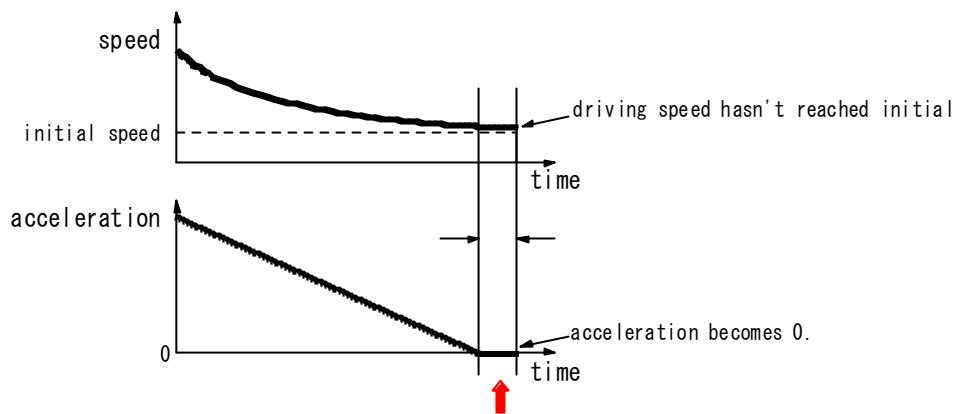

Figure 2. Driving speed and acceleration just before driving completion
Fixed pulse driving in S-curve acceleration/deceleration is performed as that driving speed and initial speed becomes equal and acceleration becomes zero(0) when driving finished, which means all pulse outputted. But it's impossible to make driving speed & initial speed equal and acceleration zero(0) in all combinations of parameters because of the problem of calculation accuracy. This trouble will happen if it is in the above mentioned occasion I, II, III or IV as the factors of deceleration stop accidentally and driving speed hasn't reached initial speed yet but acceleration has become zero(0) showing on Figure 2.